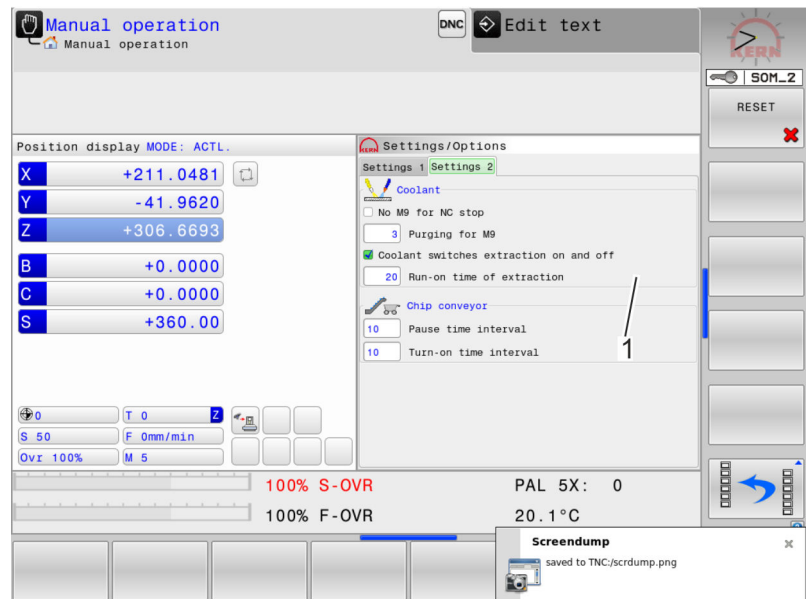

Fig. 76: Options 2
8. The settings for the cooling water can be changed in the settings 2 window (Fig. 76/1).